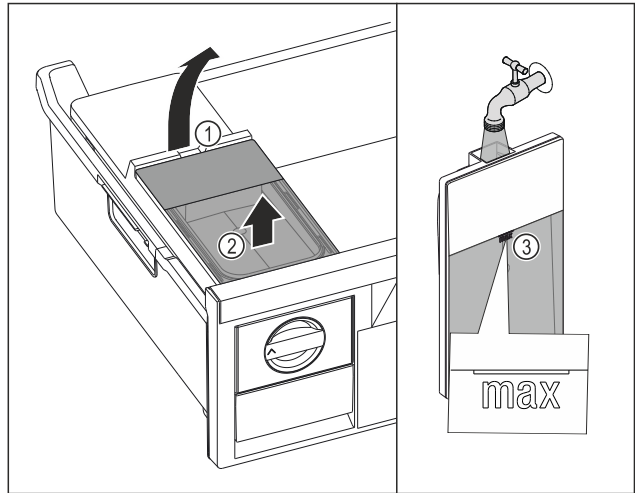

Fig. 109
- ▶ Lift the water tank at the recess Fig. 109 (1).
- ▶ Remove the water tank by lifting it upwards. Fig. 109 (2)
- ▶ Fill the water tank with drinking water up to the mark Fig. 109 (3).